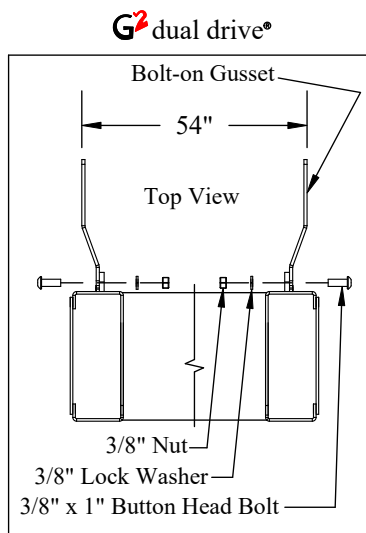

Figure 3: Top view of liftgate bolt-on gussets.
1. Install the eight (8) 3/8" x 1" button head bolts, lock washers, and nuts in the position shown for your configuration (Figure 3).